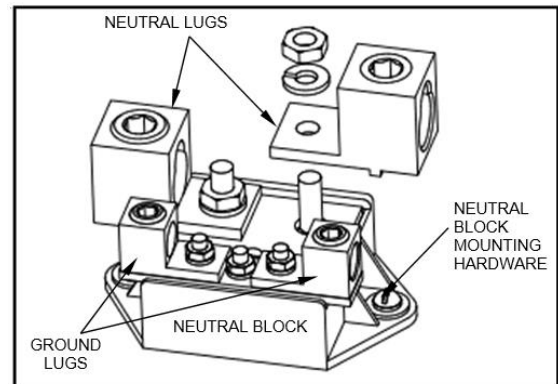

Figure 1 - Neutral
This kit is CSA listed for use as an insulated groundable neutral and may be installed in 400Amp type TH3365C and TH3365RC safety switches. Each kit contains the following parts. (See Figures 1):
- Qty (2) Ground lugs
- Qty (2) neutral lugs and mounting hardware
- Bonding screw (not shown in Figure 1)
Step 3: Mount line and load lugs to neutral block as shown in Figure 1 using hardware provided. Torque fasteners to 200-250 in-lbs.